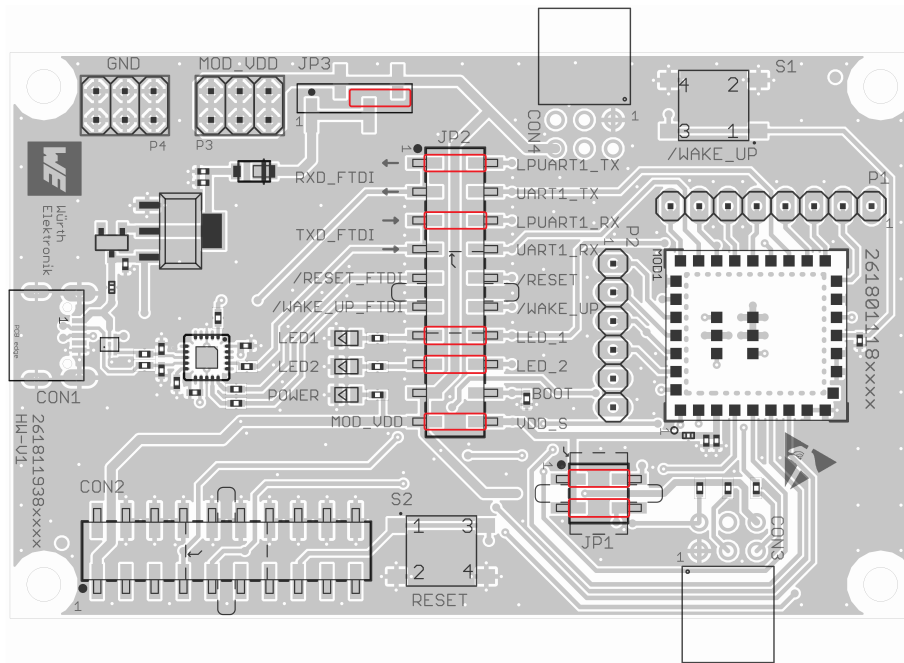

Figure 4: Default jumpers configuration for Daphnis-I EV-Board
- Step 2: Place the jumpers on default location, as shown in figure 4.